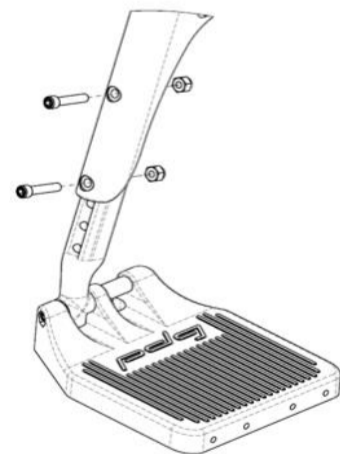

Figure 16.14: *Standard Swing-Away footrest height adjustment*
- Remove any padding and/or calf strap, if fitted. Remove the fastener and nut as shown in *Figure 16.14*.